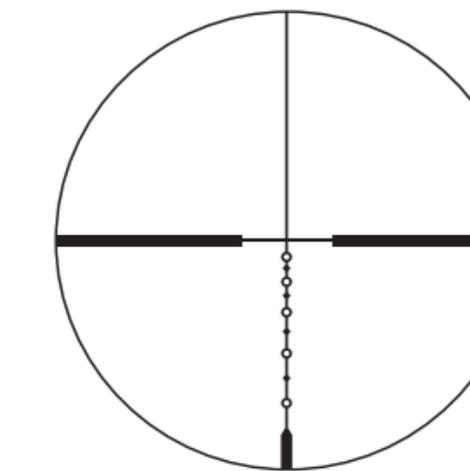
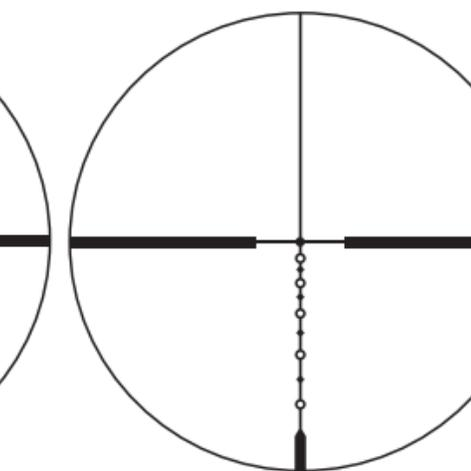

Fig. 3-1
Fig. 3-2
(1) Focusing
- Look through the eyepiece with your eye positioned about 10 cm (4 in) away from the eyepiece to see the BDC 600 (Fig. 3-1) or Illuminated BDC 600 with Dot (Fig. 3-2). Be sure your eye is positioned with proper alignment and with proper eye relief, otherwise the view will “black out.”
(2) Magnification